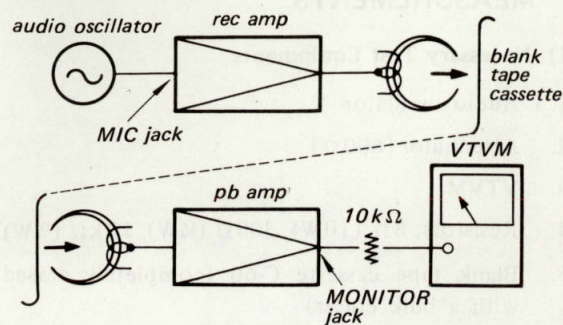
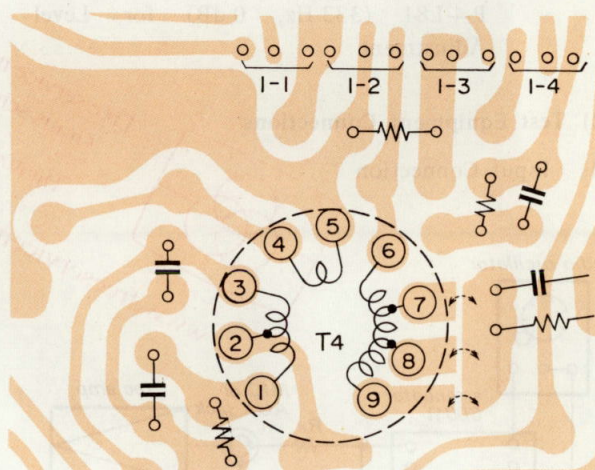

Fig. 8-3.
Fig. 8-4.
8-2. Recording Bias Adjustment (Fig. 8-3 and Fig. 8-4)
4. If necessary, repeat the above steps 2 and 3 changing the connection of tap of bias osc transformer as shown in Fig. 8-4.
- When the output of 6 kHz signal is higher than that of 1 kHz signal, connect the tap 9 in Fig. 8-4. When the former is lower than the later, connect the tap 7 in Fig. 8-4.